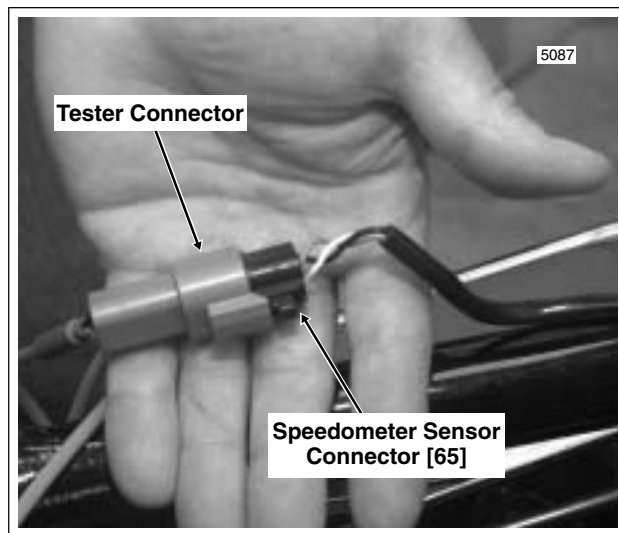

Figure 2-19. Mate Sensor and Tester Connectors
1. See Figure 2-19. Disconnect the 3-place vehicle speed sensor connector [65] under right side cover (behind electrical bracket). Attach speedometer tester connector.
1. See Figure 2-19. Disconnect vehicle speed sensor connector. Attach speedometer tester connector to speedometer sensor connector.